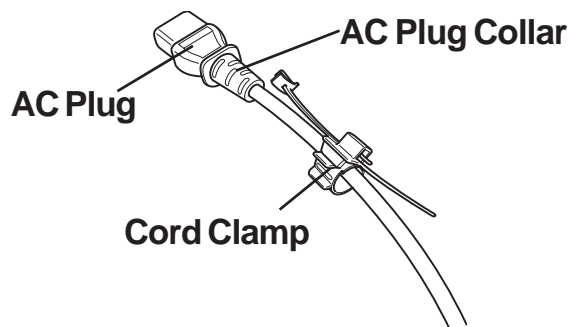

Figure 1
- 1) Open the AC Power Cord Clamp and insert the AC Power Cord as shown in fig. 1. Then, close the Cord Clamp until it clicks into place and locks around the AC Power Cord Collar.